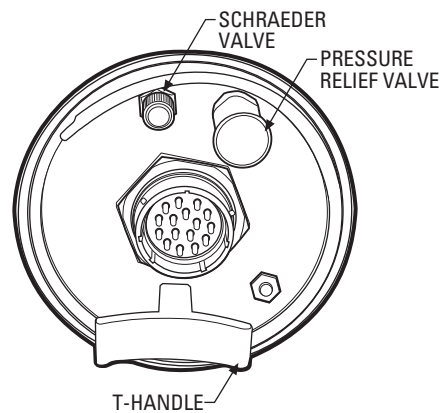

Figure 1. EH8000 Series Enclosure - Rear View
2. **EH8100 Series Enclosure Only** – To reduce the time necessary to purge the air from the enclosure, position the enclosure so that the window is pointing up. Use a small screwdriver to hold the pressure relief valve open. Refer to Figure 1.
3. Remove the valve cap from the Schraeder valve and attach the air chuck. Refer to Figures 1 and 2.